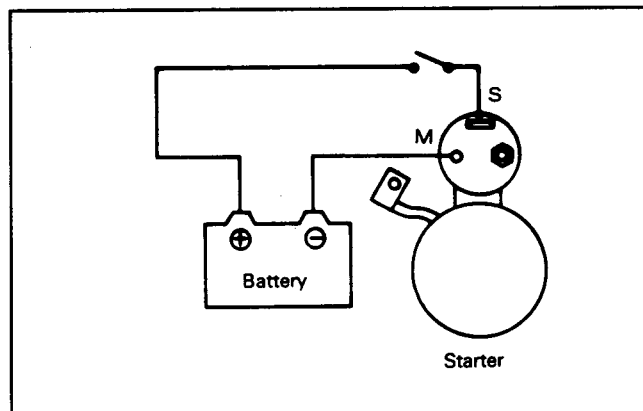

Figure 20
1. Disconnect the wire from terminal "M" (Fig. 20).